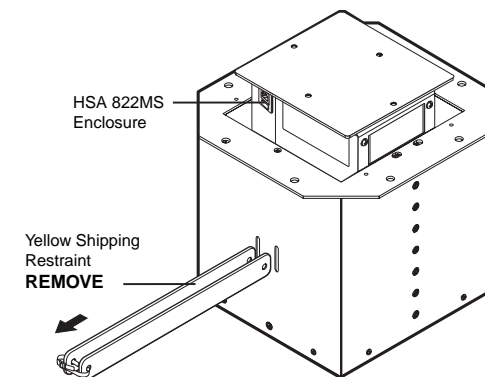

Figure 2-3 — Removing the shipping restraints
2. Cut the tie wraps that lock the yellow shipping restraints in place and remove the restraints (figure 2-3).